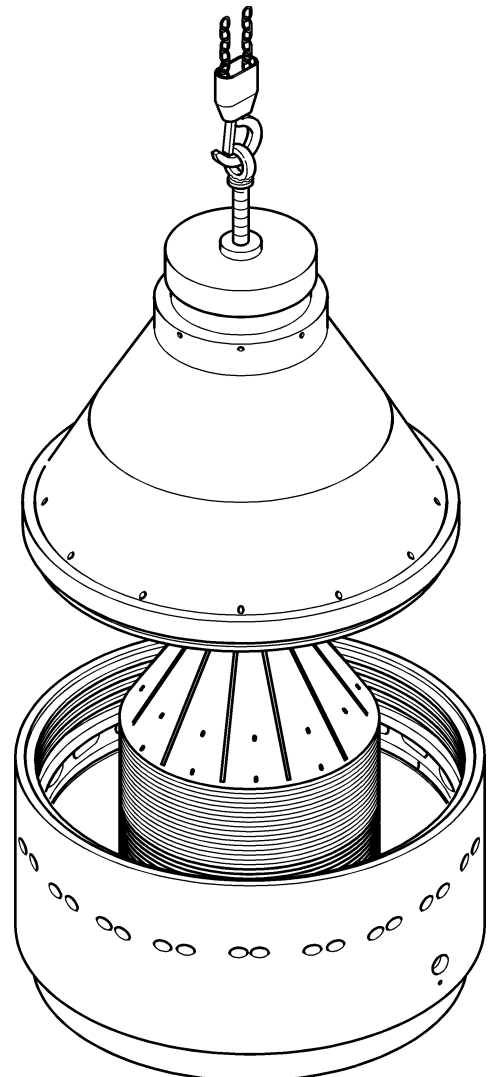

Figure 6.17
- Lift the piece by hand or by hoist and place it down into the bowl body; take care that the “0”marks of the two pieces are aligned (fig. 6.17).